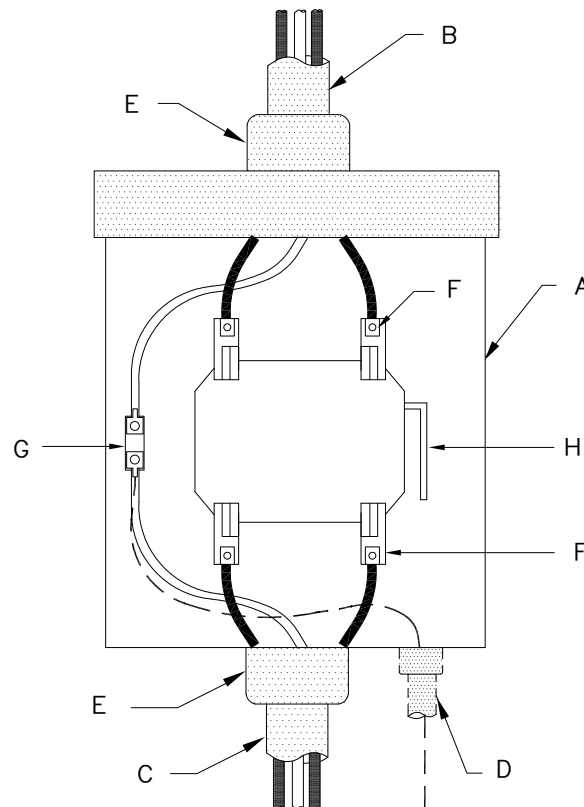

FIGURE 1
- CUSTOMER TO FURNISH, INSTALL AND MAINTAIN THE FOLLOWING EQUIPMENT (SEE FIGURE 1):